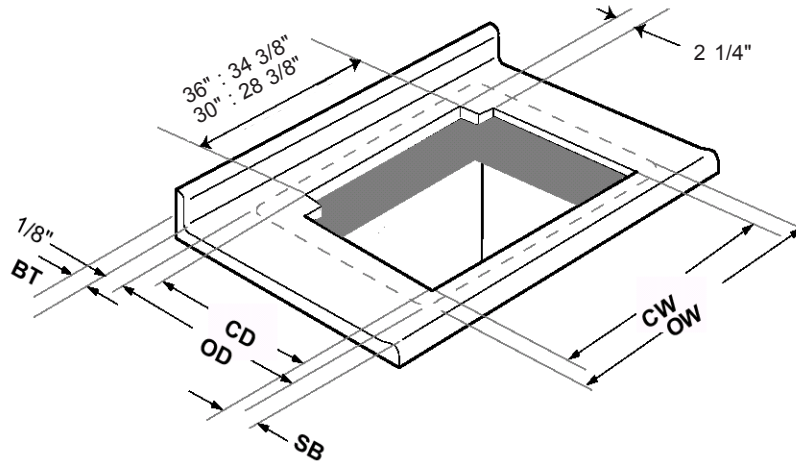

Figure 8
B. FOR INSTALLATION WITH ANOTHER BRAND OF COOKTOP (Figure 8)
See Figure 8 for DHD cutout widths and dimension definitions.
6. Cut countertop using dims: CD, CW and SB as defined in Figure 8.